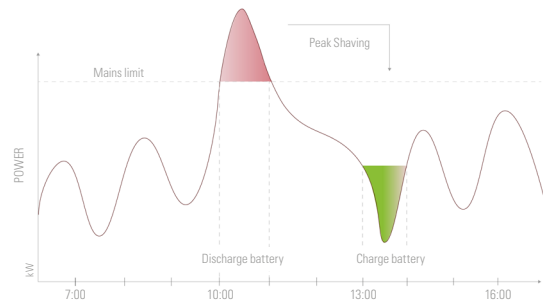

Fig. 27. Peak-shaving vs time.
- ❑ The particularity of the Peak Shaving function allows the necessary energy for the inverter to be obtained in part from the rectifier (up to the established limit), and the rest is supplied by the batteries, which act as an energy storage system (ESS). Energy Storage System"). In this way, the power absorbed from the network is limited, with the double benefit of lower network consumption (and less contracted power), and the sizing of the energy system adjusted to average consumption, instead of the consumption of the maximum peaks of load demand. Whenever we are below the load demand peaks, and always below the established input absorption limit, the batteries will be recharged, for availability in the next peak consumption cycle (see Fig. 27).
The Uninterruptible Power Supply Systems **SLC CUBE3+ PS** series, are designed and thought for its «parallel» connection with a maximum of four units, on condition that they are the same model (setting, voltage, power, frequency, back up time, ...), all of them without adding hardware. Fig. 27 and 28, as an example, show the circuit diagrams of a three phase/three phase parallel system, with and without separate static bypass line. Both circuit diagrams are only showing the input-output power connections and the parallel control BUS.